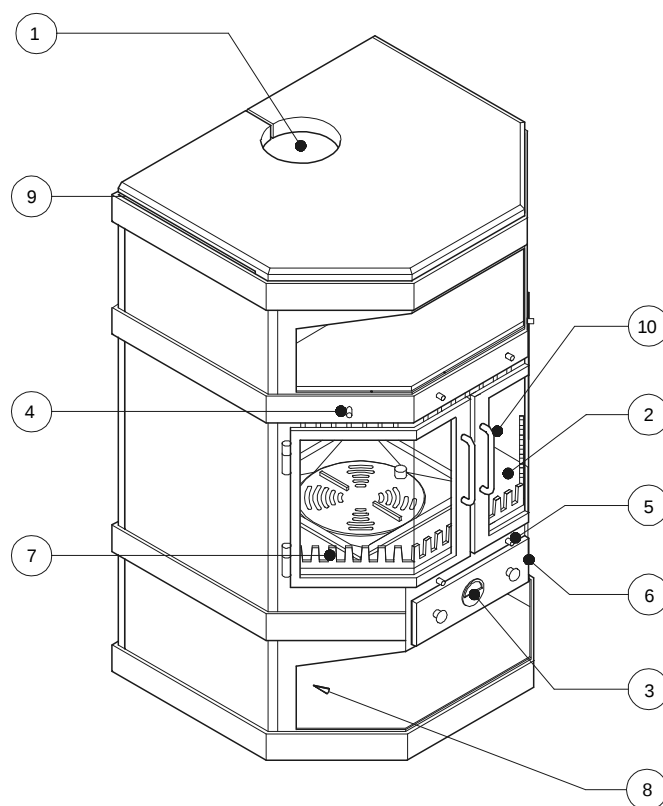

Figure 1: Commande
6.2. AMORÇAGE DU FEU (Figure 1)